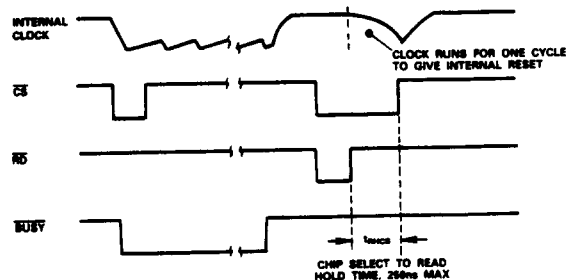

Figure 7. Chip Select to Read Timing
2. \overline{CS} must return HIGH within 250ns after \overline{RD} goes HIGH otherwise a new conversion may be initiated and the AD7574 will begin operating in the ROM mode (see Figure 7).